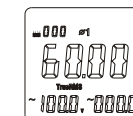

Figure 12-1
- 4) As shown in Figure 12-1, please press SELECT key to select the 1st phase location of ϕ 1 for three-phase four-wire system of load. It also can display apparent power, voltage and current of phase location of ϕ 1.